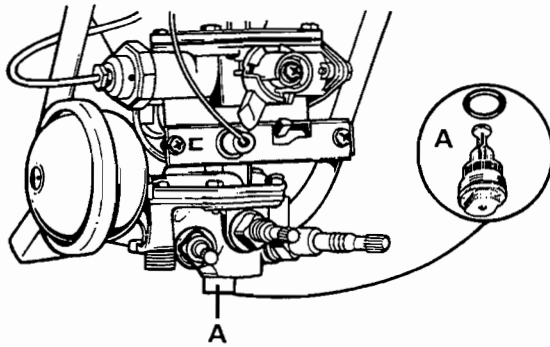

Fig. 12
a) Remove the governor (A) which is situated in the base of the water section collecting the water in a receptacle (see fig. 12).